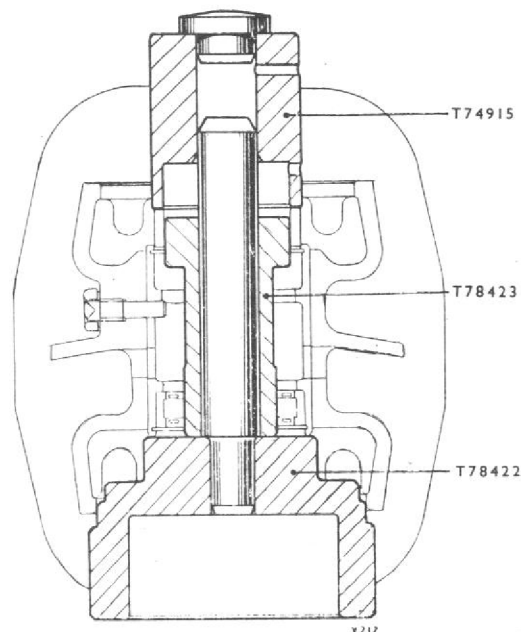

Fig. 12. Pressing the lower outer roller race into the bush
- (8) Remove the housing from the press block, reverse the sleeve; invert the housing and replace on the press block.
- (9) Position the lower roller bearing (outer race) over the mandrel. Using adapter T74915, press the bearing into the bush (fig. 12).
- (10) Secure the bearing in position with the retaining ring using Seeger pliers.